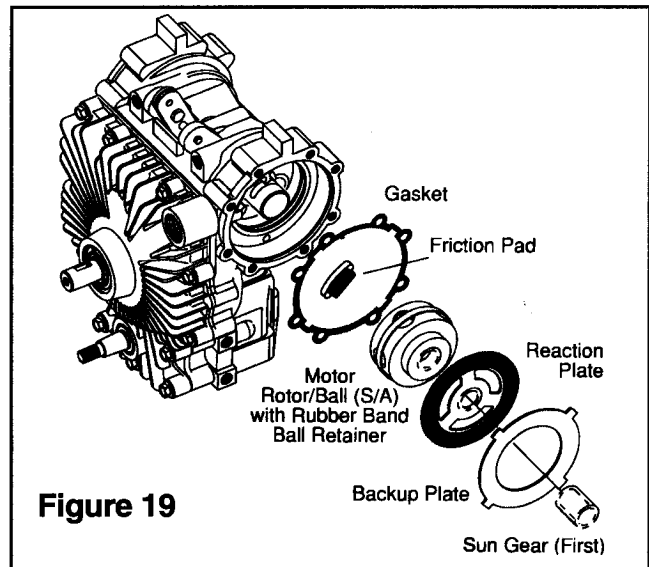

Figure 19
27. Shown in Figure 19 are the three major parts used in the Eaton transaxle wet brake assembly, the friction pad assembly, reaction plate and backup plate. When the brake is applied, the rotating reaction plate is squeezed between the stationary friction pad and the backup plate.